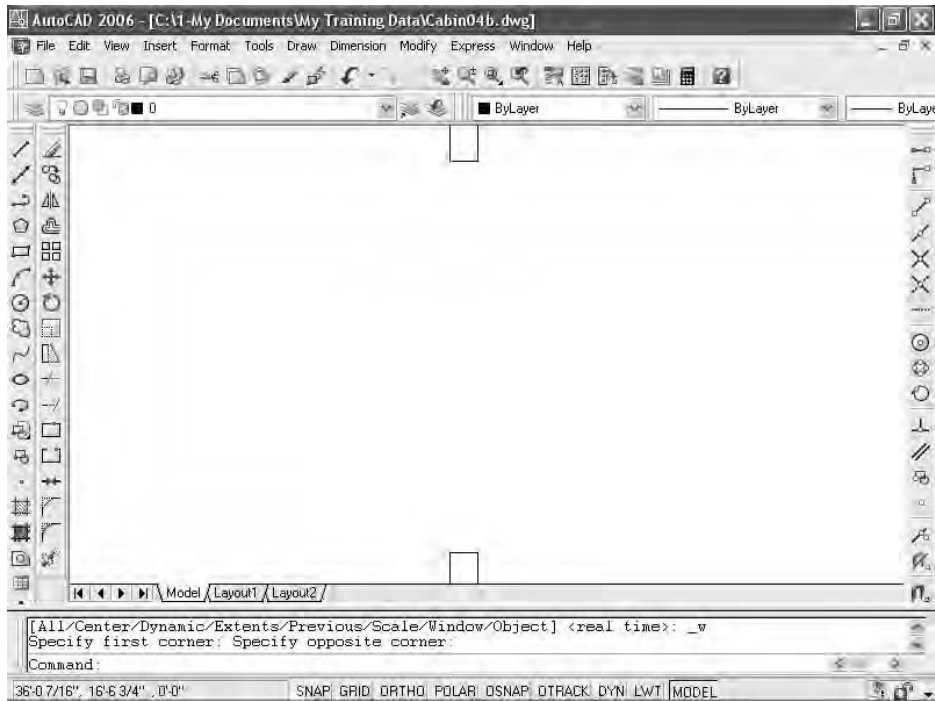

FIGURE 4.40: The Object Snap toolbar docked to the right of the drawing area
- C. Put the cursor on the colored title bar of the Object Snap toolbar, and holding down the left mouse button, drag the toolbar to the right side of the drawing area. Dock it there by releasing the mouse button (see Figure 4.40). Now you can easily select all Object Snaps as needed.